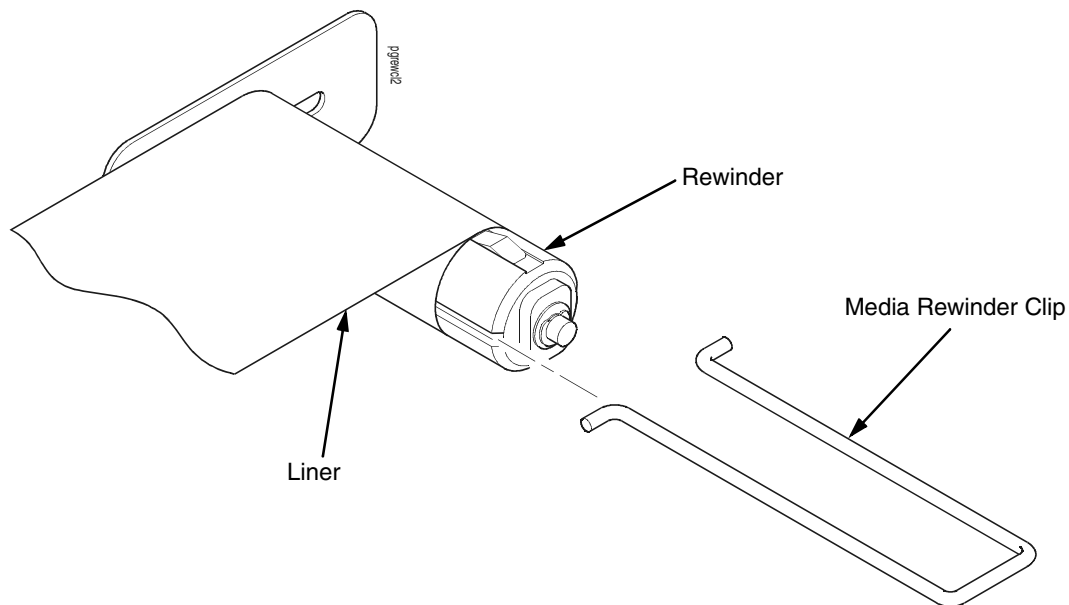

Figure 25. Securing Liner onto the Rewinder
11. Insert the media rewriter clip to secure the media. See Figure 25.